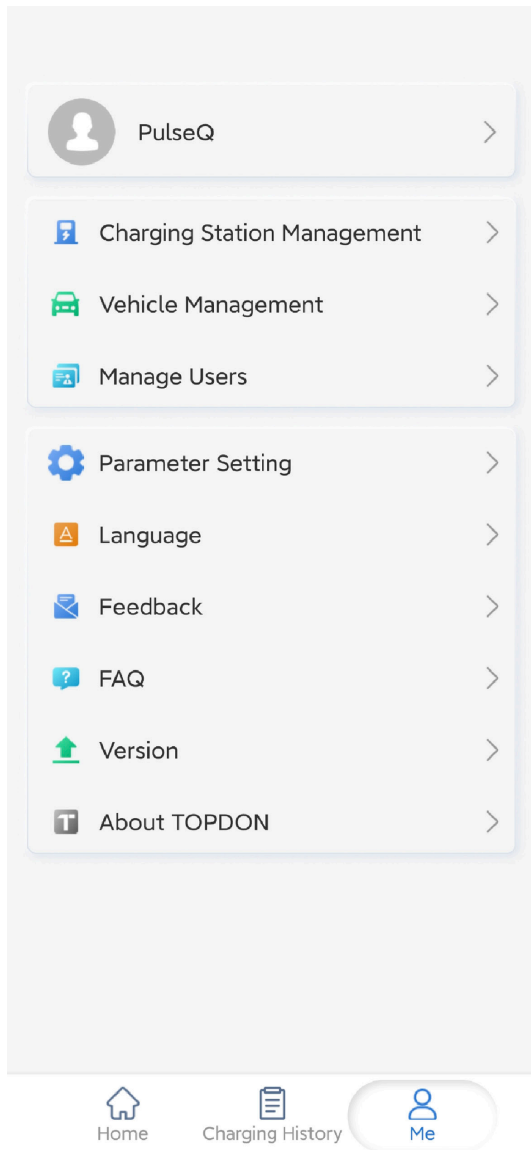

Fig.6.2.1
1. Open the app and tap the User Center, select Charging Station Management. (See Figure 6.2.1)